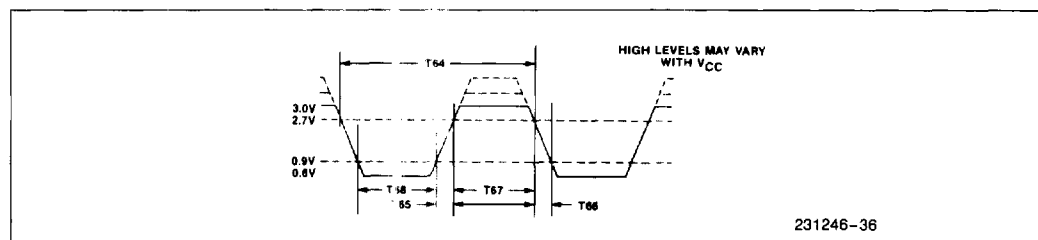

Figure 35. $\overline{RxC}$ Input Voltage Levels for Timing Measurements
15. 82C501 compatible levels, see Figure 35